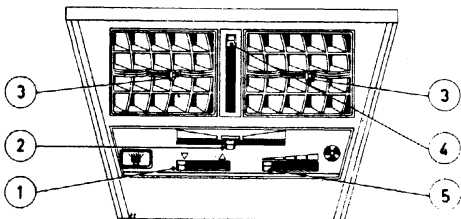

fig. 8
- 15 - Central air-grills opening and adjusting control (fig. 8).
- 16 - Fan control (fig. 8).
- 17 - Air-forced temperature regulation (fig. 8).
- 20 - Leva comando centralina climatizzazione (vedi fig. 8).
- 20 - Levier commande dispositif de climatisation (voir fig. 8).
- 20 - Air-conditioning system lever (fig. 8).
CLIMATIZZAZIONE (fig. 8/1)
(fig. 8/2)
CLIMATISATION (fig. 8/1)
REGLAGE DE LA TEMPERATURE (fig. 8/2)
(fig. 8/1)
TEMPERATURE ADJUSTEMENT (fig. 8/2)
COMANDO GRIGLIE DI AERAZIONE INTERNO ABITACOLO (fig. 8/3)
COMANDO APERTURA E REGOLAZIONE PORTATA DELLE GRIGLIE CENTRALI DI AERAZIONE (fig. 8/4)
COMANDO VENTILATORE (fig. 8/5)
COMMANDE GRILLES D'AERATION INTERIEUR HABITACLE (fig. 8/3)
COMMANDE OUVERTURE ET REGLAGE DEBIT GRILLES CENTRALES D'AERATION (fig. 8/4)
COMMANDE VENTILATEUR (fig. 8/5)
COCKPIT AIR-FLOW GRILLS CONTROL (fig. 8/3)
CENTRAL GRILLS OPENING AND ADJUSTING CONTROL (fig. 8/4)
FAN CONTROL (fig. 8/5)